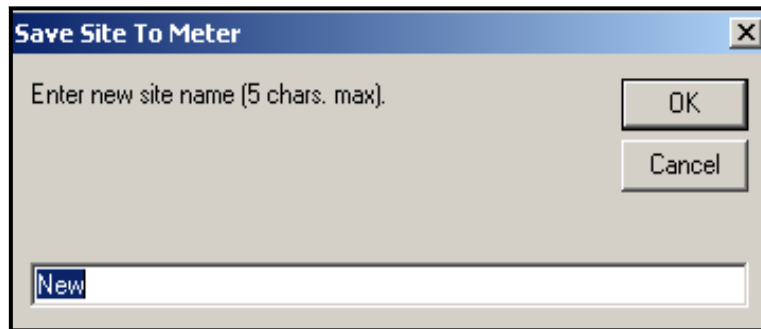

Figure 32: Site Name Entry Window
2. A window opens similar to Figure 32 below. Enter the desired name, and click **[OK]**.